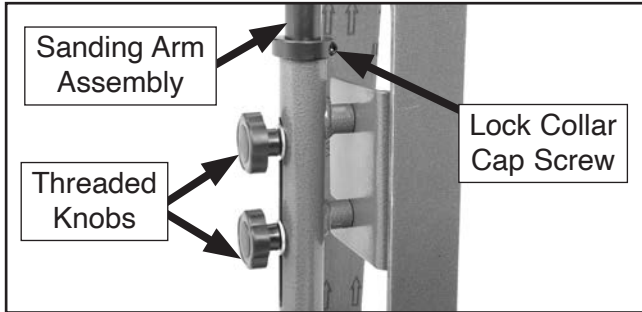

Figure 27. Sanding belt tension controls.
- Loosen the threaded knobs and lock collar shown in **Figure 27** and lower sanding arm assembly.